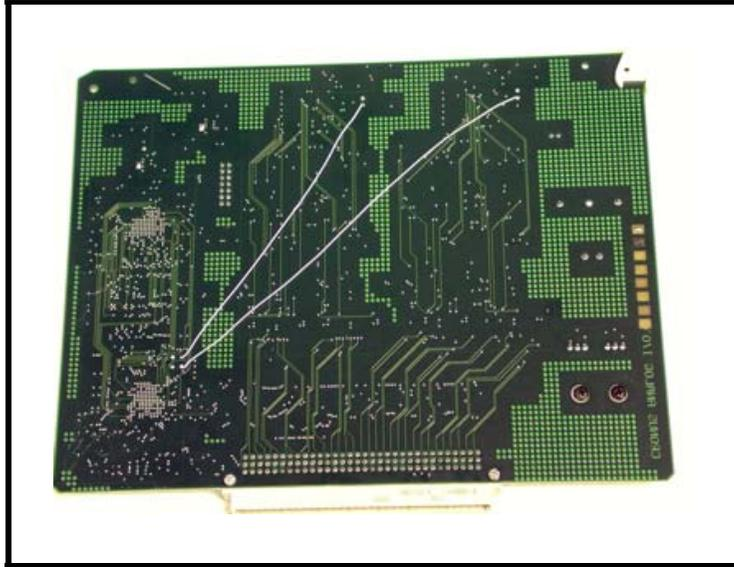

FIGURE 1. Wire Placement on the Cronus Front Card
1. On the RVON-I/O card remove 8 resistors (R24 through R431) and replace with 6.19 K resistors (part number 102515-276). See Figure 1 for resistor placement.